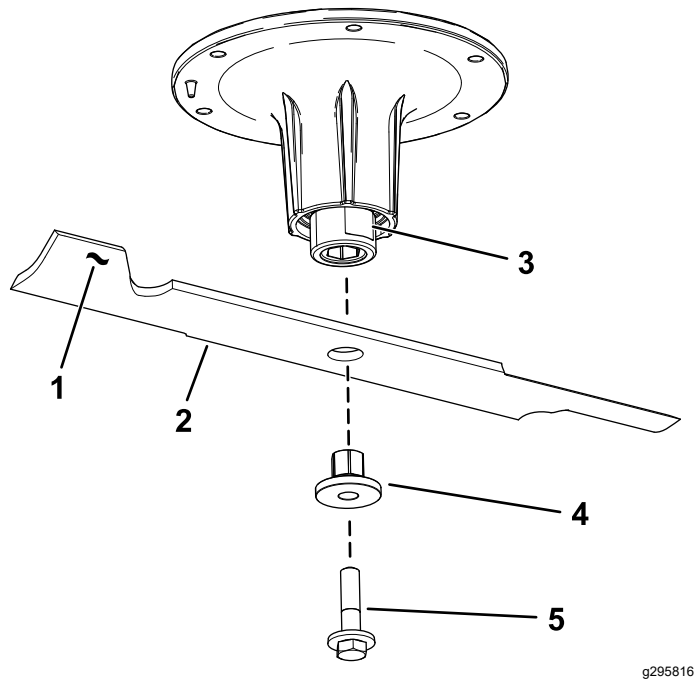

Figure 90
2. Remove the blade bolt, bushing, and blade from the spindle shaft (Figure 90).